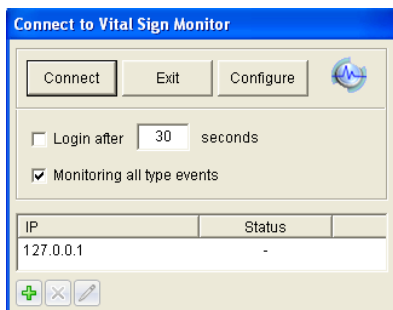

Figure 3-4
To further define the communication conditions between the subscriber and VSM, click the **Configure** button on the Connect to Vital Sign Monitor dialog box (Figure 3-4) to display the Advanced Settings dialog box. There are tabs: (1) General, (2) Camera, (3) I/O Device and (4) System Information.
The settings define which I/O condition to notify the VSM. To configure these settings, first disable the **Monitoring all type events** option in Figure 3-4.
Click  on the Connect to Vital Sign Monitor dialog box (Figure 3-4). For details, see *Input State Detection*, Chapter 6, *DVR User's Manual* on the Surveillance System Software DVD.